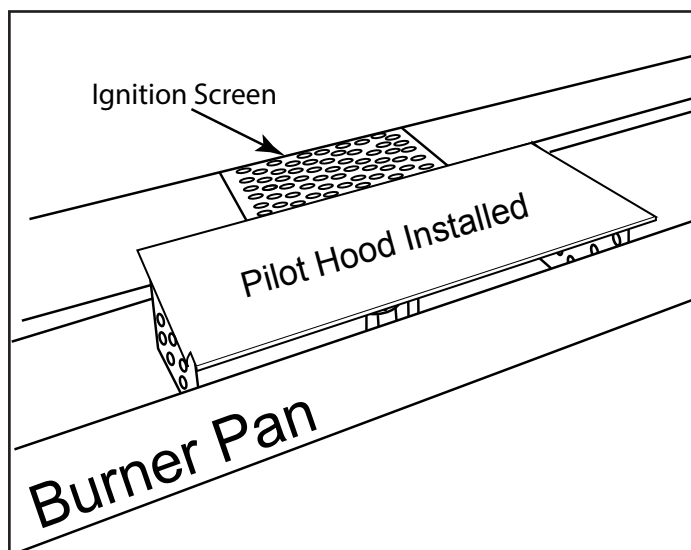

Figure 33 Pilot hood installed, showing ventilation at front edge of burner pan.
Step 23: The pilot assembly is located in the center of the burner. Ensure the pilot flame is passing through the ignition hole, to the burner for proper ignition. Use the Figure 33 as a guide.